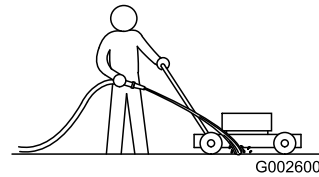

Figure 30
1. With the engine running on a flat paved surface, spray a stream of water in front of the **right** rear wheel (Figure 30).